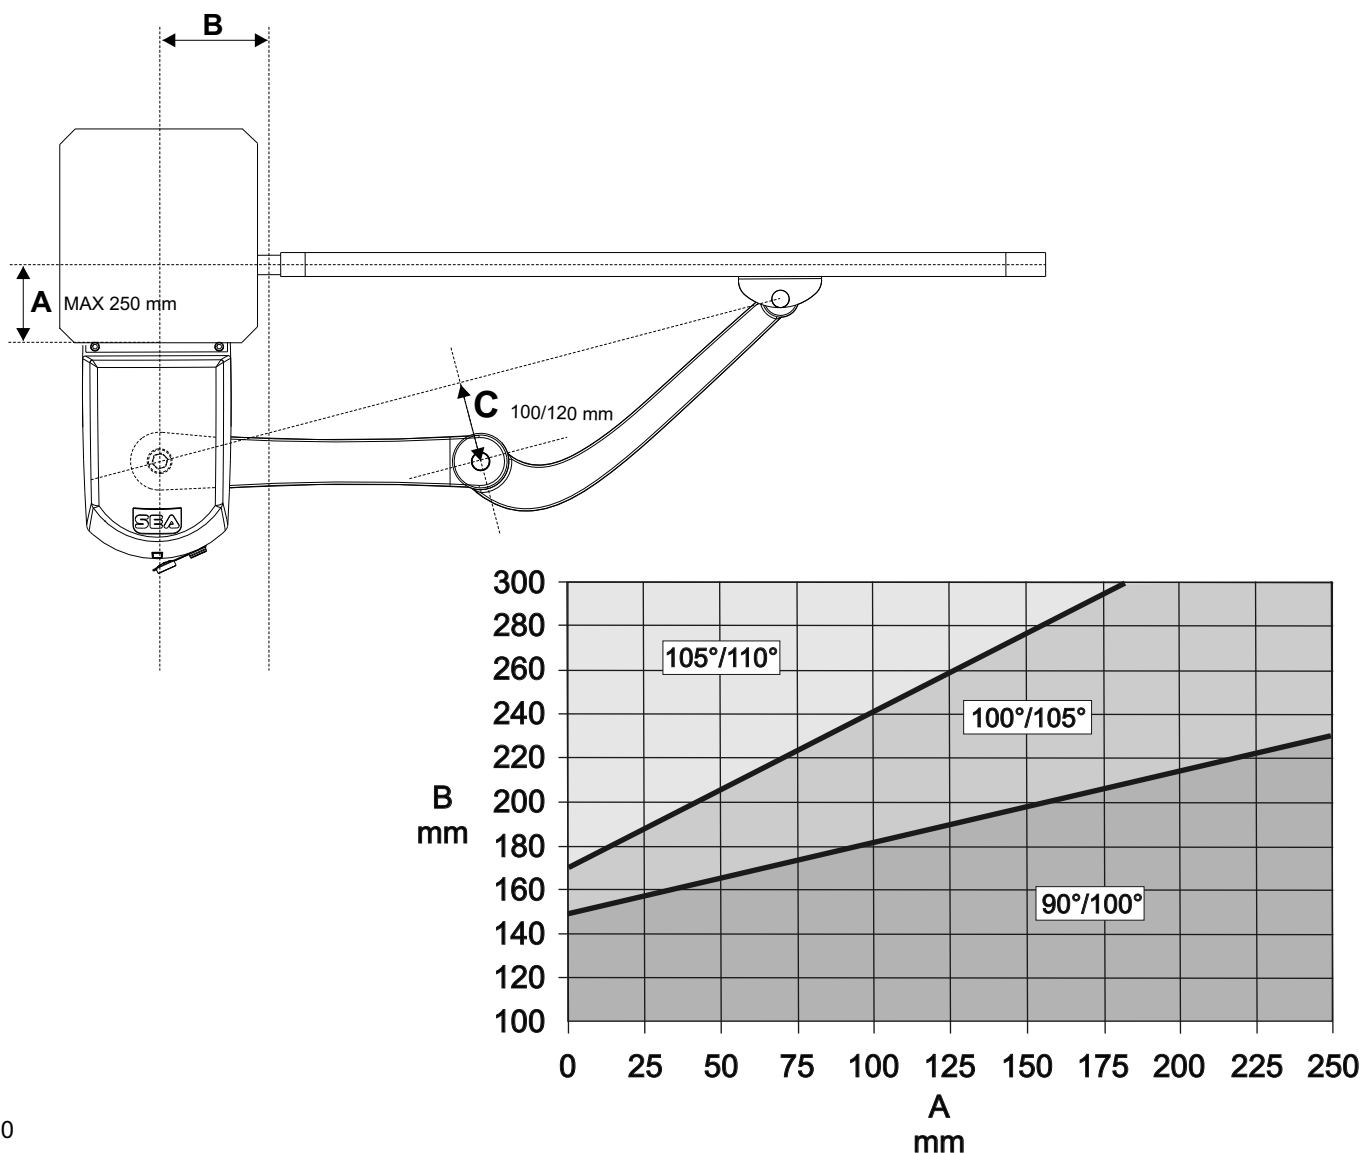
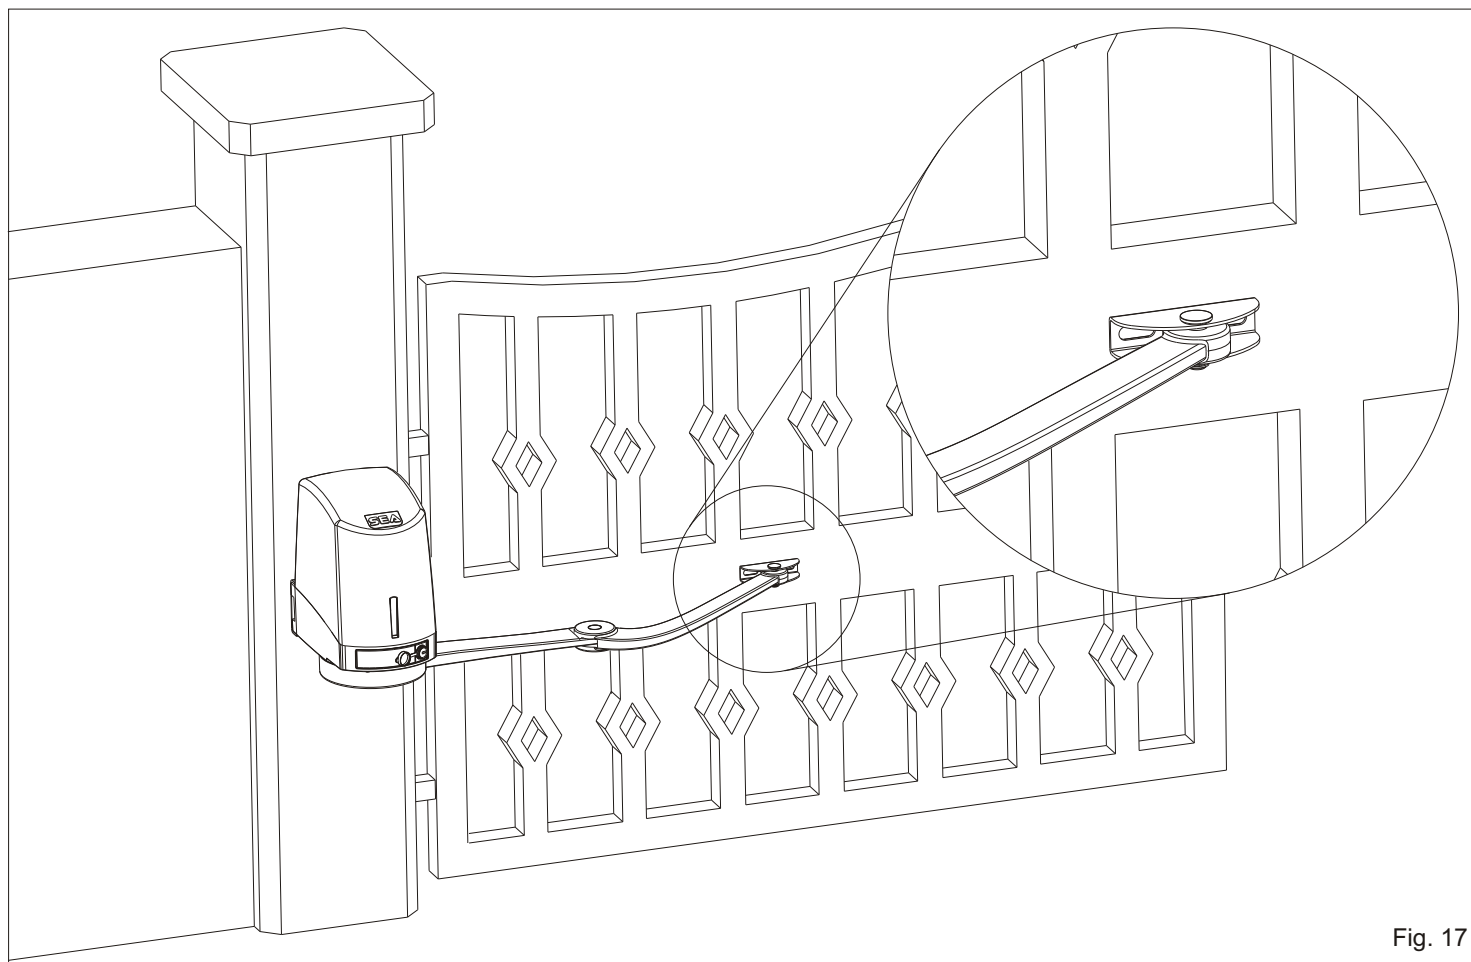

Fig. 10
Fig. 17
- Extend the articulated arm (Fig. 10), lean the adjustable front bracket on the gate and make two marks on the center of the two holes (Fig. 17) respecting the measures in Fig. 10.
- Before tightening the screws move the front bracket to the right or to the left for a good positioning of the arm on the gate (Fig. 19) respecting the measure C in Fig. 10.